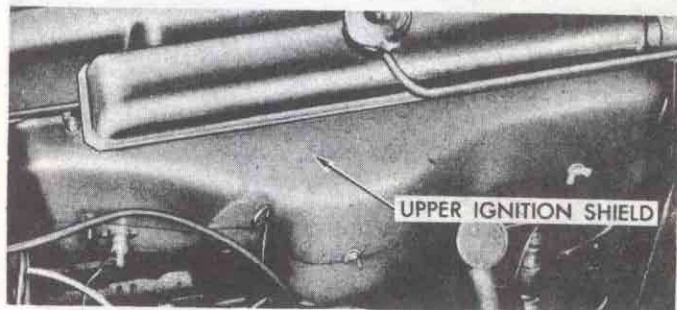
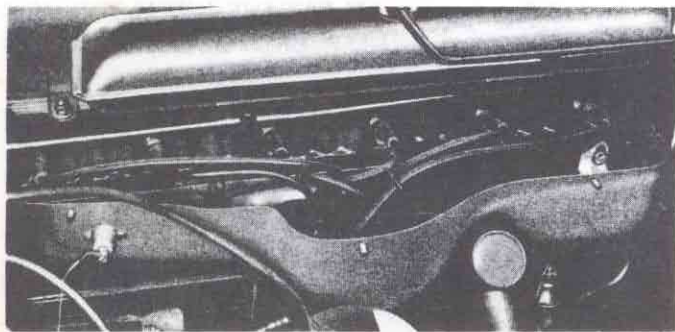

Fig. 61—Upper Ignition Shield
Fig. 62—Upper Ignition Shield Removed
2. Remove upper ignition shield (fig. 61) to expose spark plugs (fig. 62).
To gain access to the spark plugs, the upper ignition shield (fig. 61) must be removed. It is important that this shield be replaced when servicing is complete.